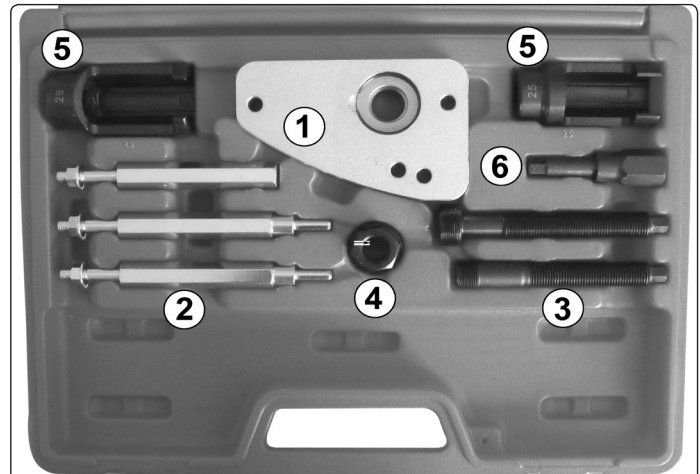

fig.1
Contents: (refer to fig.1)
- 3.1. Referring to the individual components in fig.1, assemble the Injector Puller minus the force screw as shown in fig.2. overleaf. a different configuration of the bridge legs may be needed depending on engine.